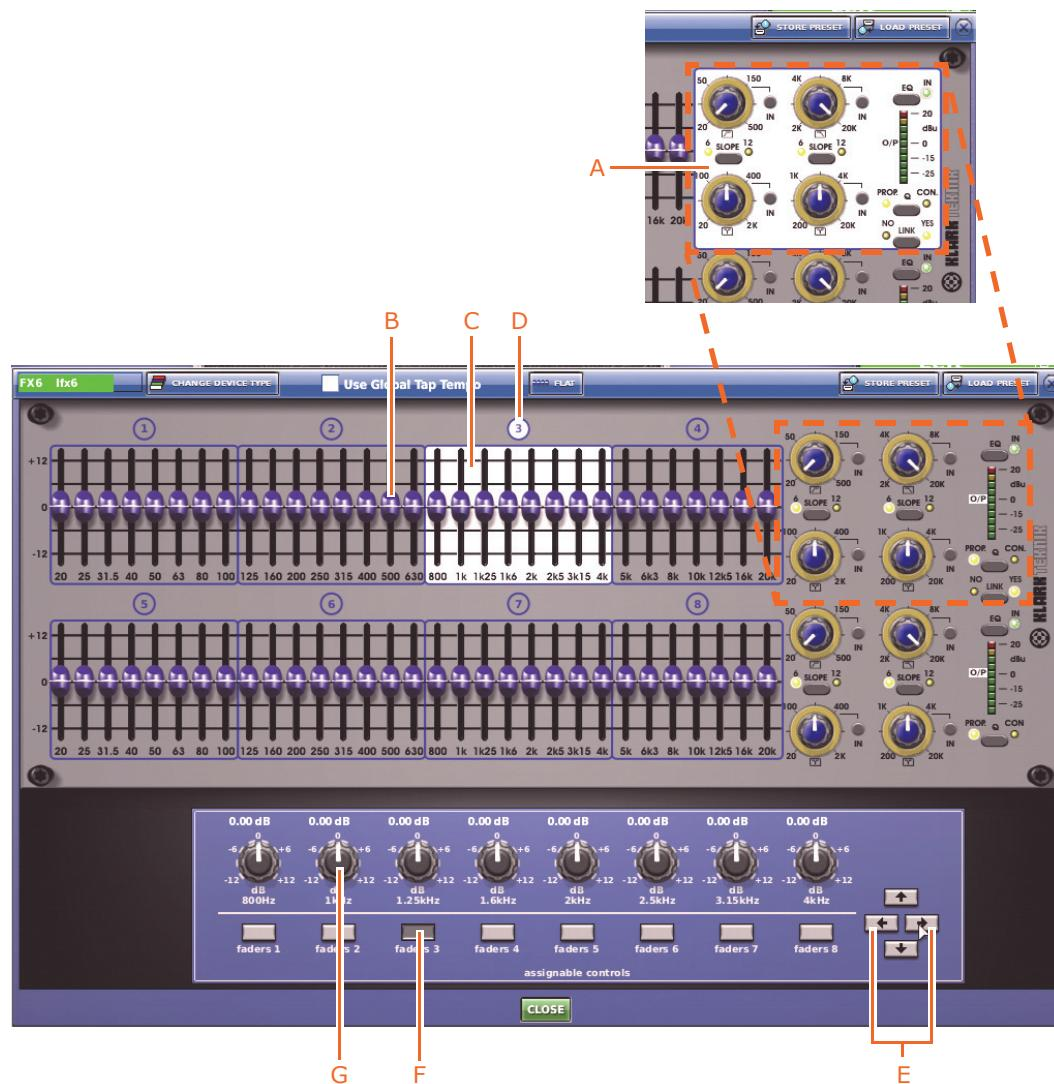

Figure 2: Stereo GEQ navigation.
- 1 In any **input select** section, press and hold down the asterisk (\*) button (see Figure 2). After about one second the LCD buttons in the population group section should show their advanced navigation assignments.
- To activate an advanced navigation feature, press the desired button while still holding down asterisk (\*) button. For example, to activate flip, press the **FLIP** button (see Figure 2).
Figure 2: Activating and selecting the advanced navigation buttons on an XL8. When an advanced navigation mode is active, its associated LCD button displays a dark background (A) and, when inactive, the background is blue (B).
To navigate the channels and controls of the GEQs, use the assignable control buttons and the left/right arrow buttons (see Figure 2 on page 28).